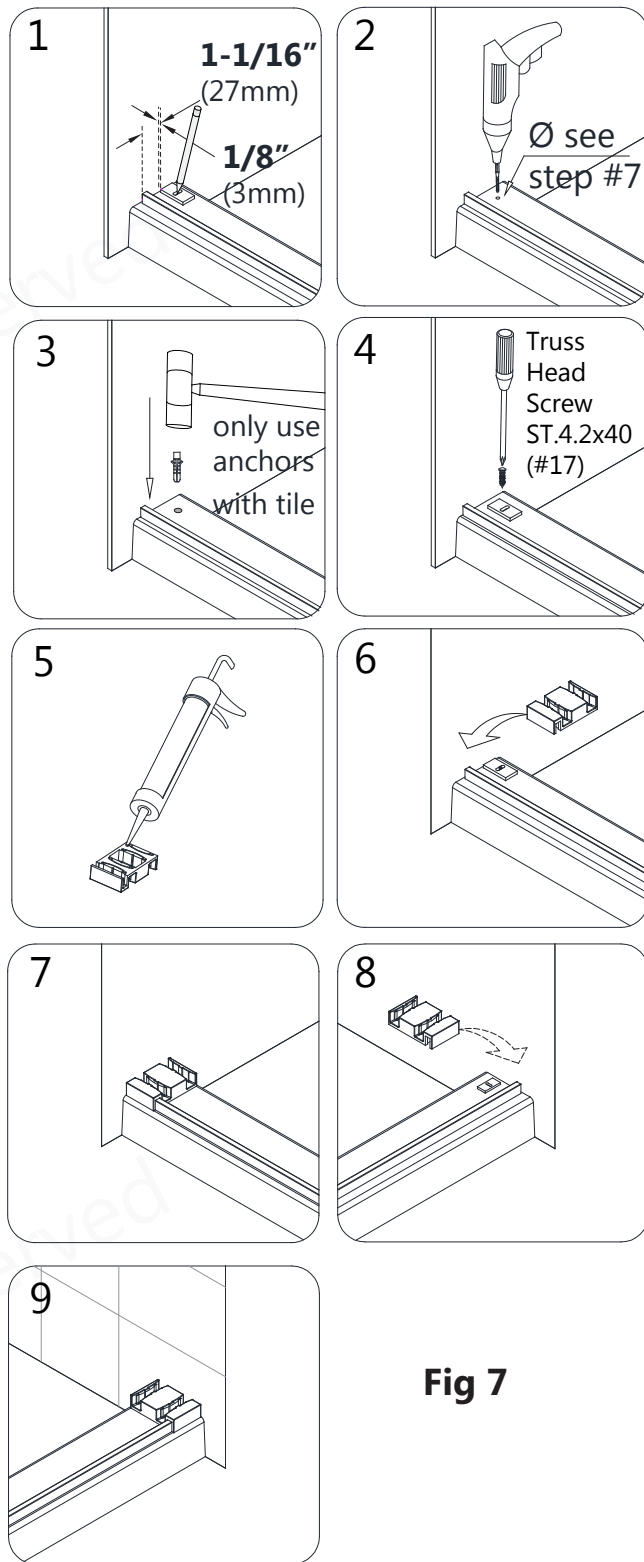

Fig 7
7. Place one of the **Guide Block Brackets (#15)** onto the threshold: **1-1/16" (27mm)** from the outside of the **Bottom Rail (#08)** and 1/8" (3mm) from the wall. Use the Guide Block to check spacing. Mark the hole for drilling. (**Fig 7**)
Repeat this process for the **Guide Block Bracket (#15)** and **Guide Block (#09)** installation on the opposite wall. (**Fig 7**)
Fig 7 detail